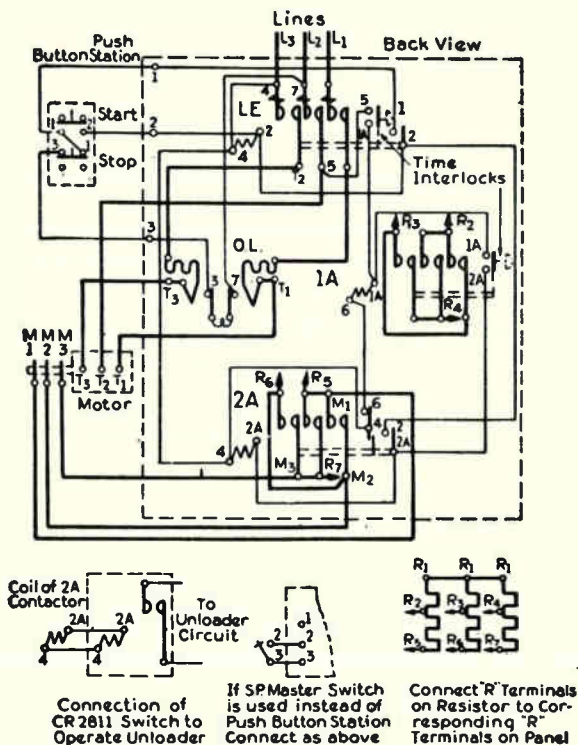

Fig. 16-36
**Fig. 16-36.** Magnetic starter, push-button operated. Upper contactors (LE) are for motor primary or stator. Secondary or rotor of motor connects at terminals on contactors 2A to resistor terminals R5, R6 and R7 to place full resistance in circuit for starting. After time delay, contactors 1A close to short-circuit the resistor terminals R2, R3 and R4. After further time delay contactors 2A close to short resistor terminals R5, R6 and R7, thus cutting out all resistance. Overload release with thermal coils is marked O.L. (General Electric diagram)